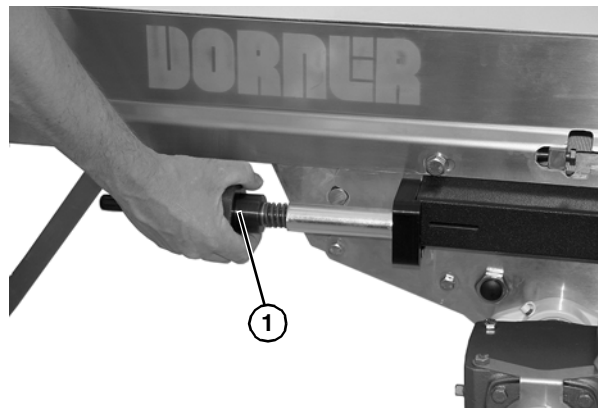

Figure 71
- Rotate tensioning nut (Figure 71, item 1) on each side of center drive unit counterclockwise to remove all tension on belt.